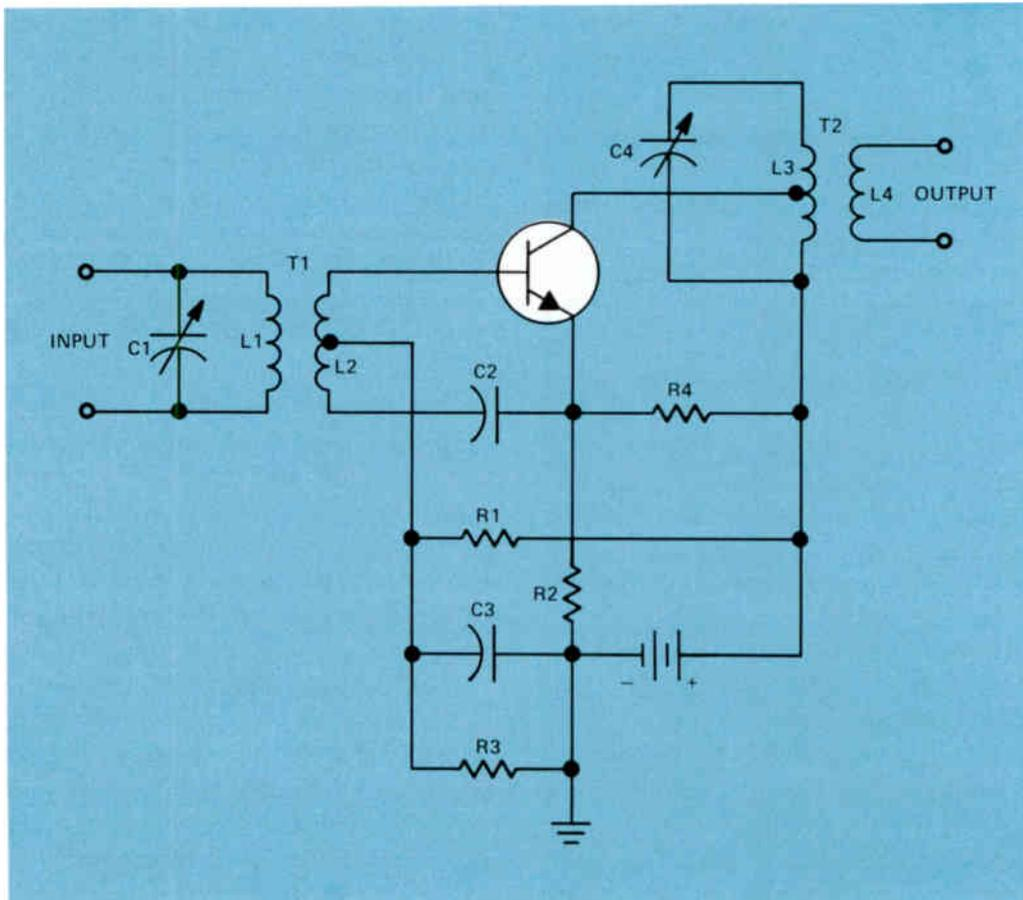

Figure 28. Transistor i-f amplifier using an npn transistor.
Another transistor i-f amplifier is shown in Fig.28. This amplifier uses an npn transistor whereas the one shown in Fig.27 uses a pnp transistor. In addition to the different transistor types, the method of obtaining neutralization is somewhat different. Notice the resistor in the emitter circuit, R2. This resistor is not bypassed; therefore, a signal voltage will be developed across it. The signal voltage is fed through C2 into the lower end of the coil L2. The center tap of L2 is at signal ground potential because
- 28 In the circuit shown in Fig.28, why is the collector fed to a tap on L3?